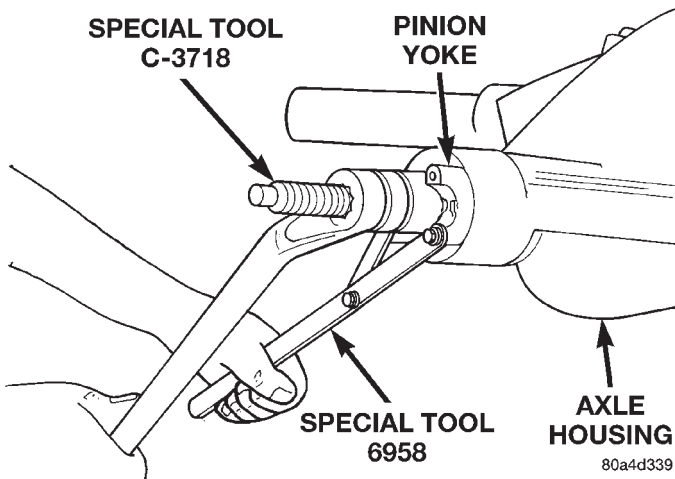

Fig. 13 Pinion Yoke Installation
(2) Install yoke on the pinion gear with Installer C-3718 and Holder 6958 (Fig. 13).